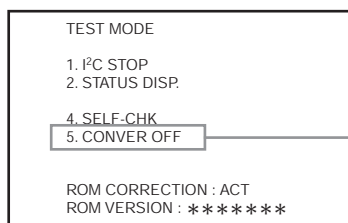

Fig. 1
- While the indication "SLEEP TIMER 30 MIN." is being displayed. Press [DISPLAY] key and [VIDEO STATUS] key simultaneously to enter the TEST MODE MENU screen as shown in the Fig.1.